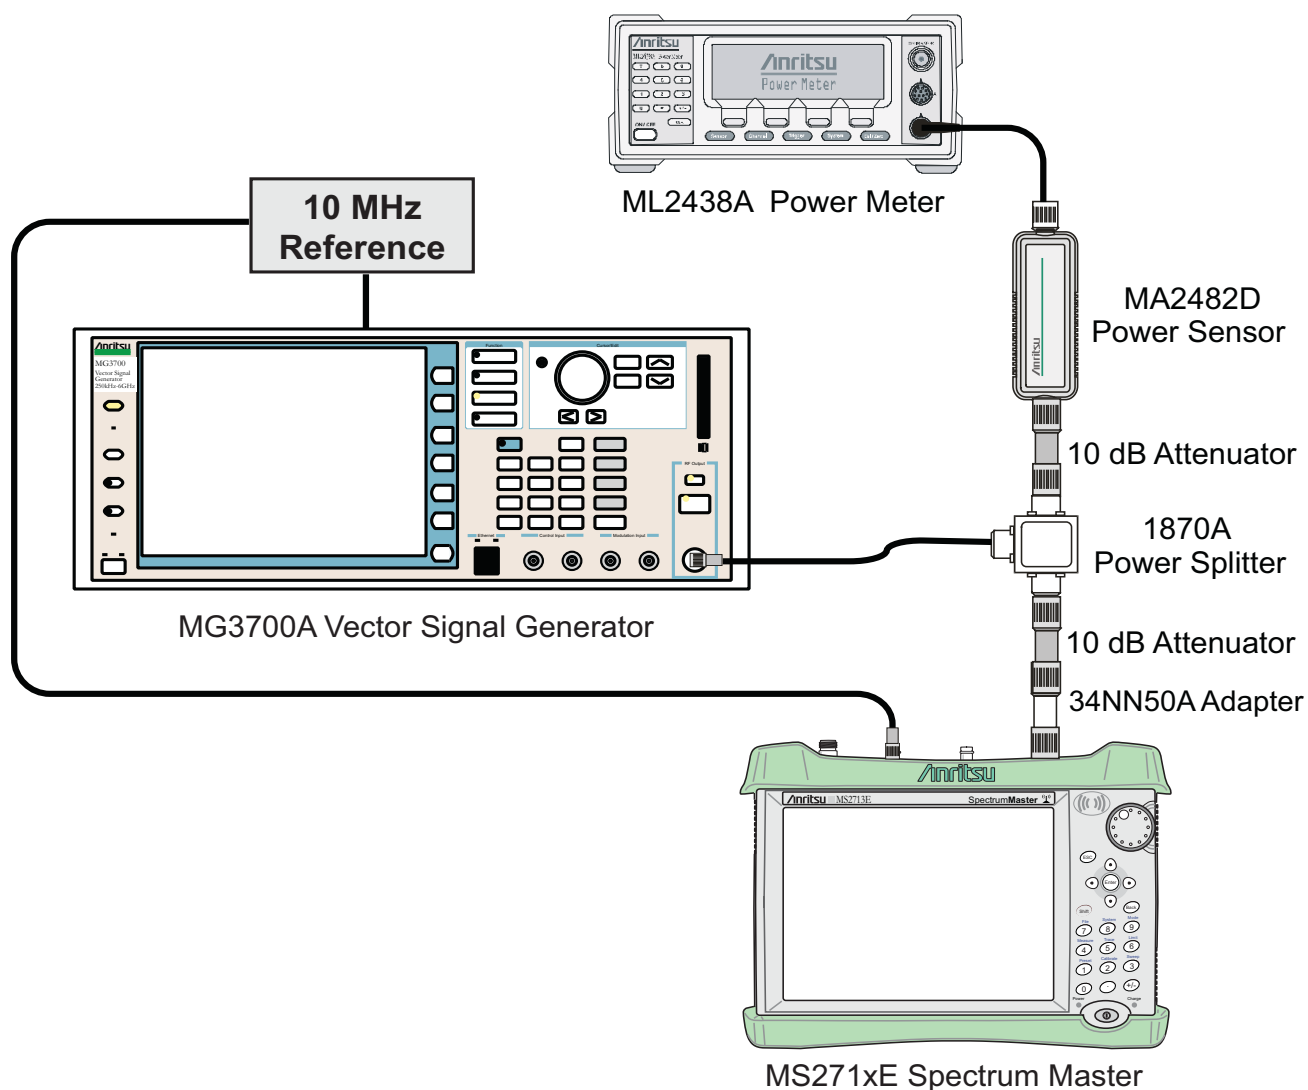

Figure 3-23. LTE Signal Analyzer Option Verification
4. Connect the equipment as shown in Figure 3-23.